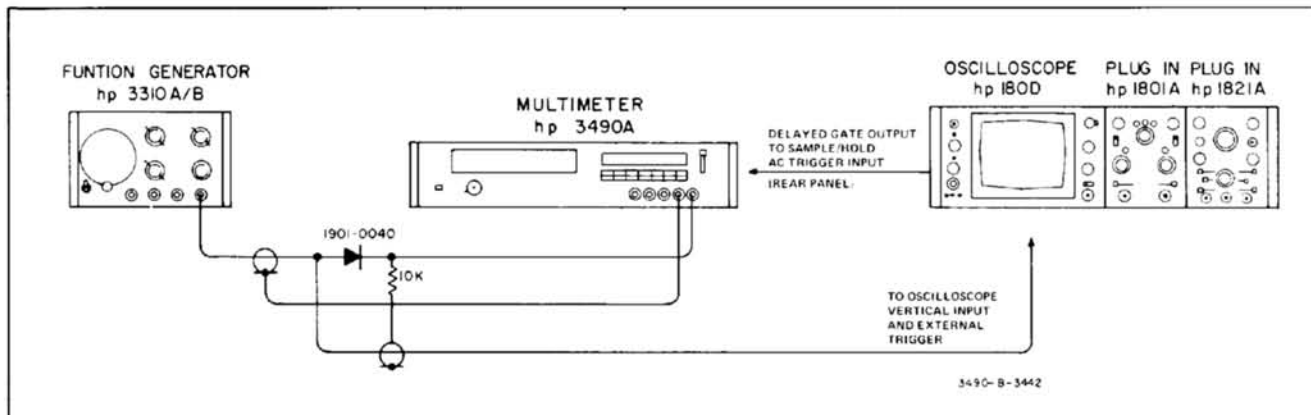

Figure 5-7. Sample/Hold Response Test.
- Connect equipment as shown in Figure 5-7. If the 3490A has BCD/Remote Expand Option 020, also